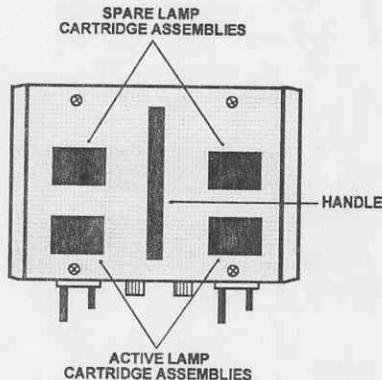
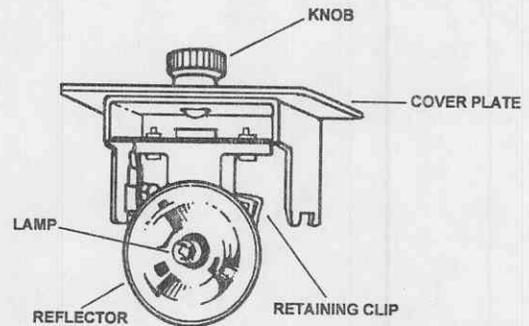

Figure 3-3. Lamp cartridge assemblies locations.
Figure 3-4. Lamp cartridge assembly.
(3) Grasp the knob on the burned out active lamp cartridge assembly (fig 3-3) and pull it upward to remove it from the top of the endoscopic instrument light. Set the lamp cartridge assembly aside (fig 3-4).